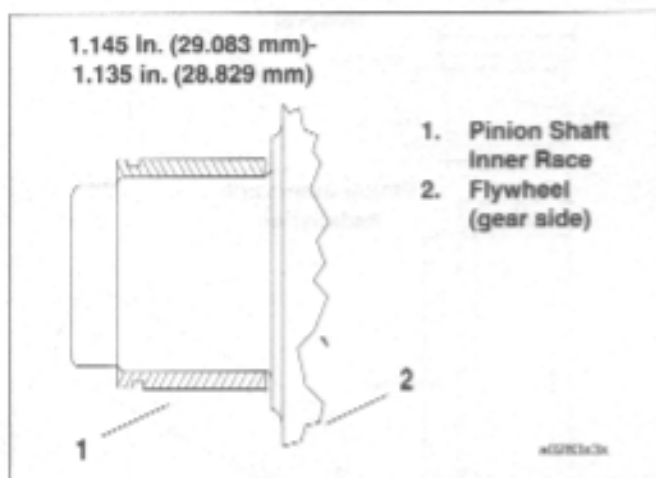

Figure 3-146. Inner Race Location
8. See Figure 3-146. Press new inner race on pinion shaft as shown. When the tool bottoms against the flywheel, correct inner race location is automatically established. The new inner race must be ground by a competent machinist to OD dimension range for the finished lapped ID of the outer race. See Table 3-31. The finished inner race must meet the specifications in Table 3-34.